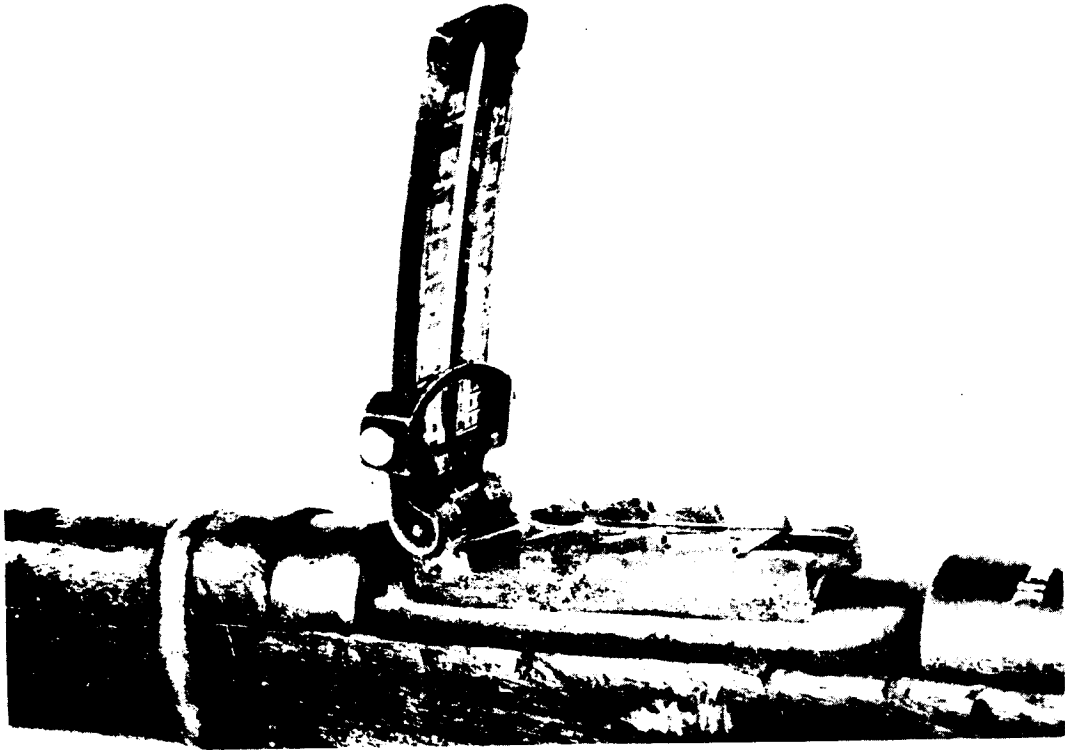

FIGURE 8. REAR SIGHT FOR RIFLE M1891.
a. This rifle has a notched-ramp leaf-type rear sight (fig. 8) which has no provision for windage. The sight is graduated from 400 to 3,200 arshins (312 to 2,496 yards).